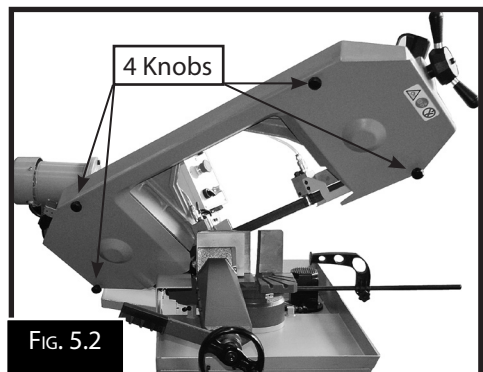

FIG. 5.2
3. Remove the back cover by removing the 4 knobs displayed in Fig. 5.2.